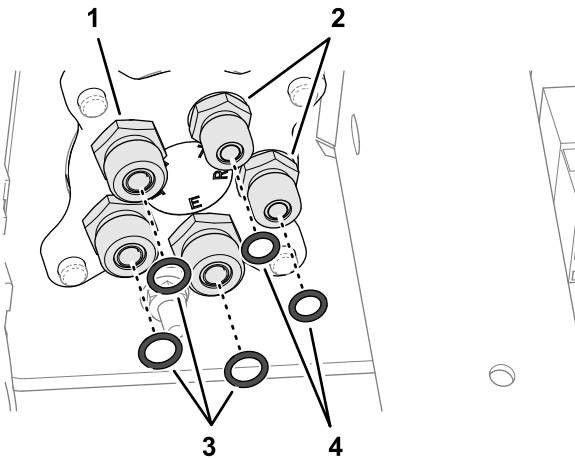

Figure 112
1. Remove the 3 O-rings from the face of the -6 fittings of the steering valve (Figure 112).
2. Install a 3 new O-ring 9.2/1.8 mm (0.364/0.070 inch) into the grooves of the -6 fittings (Figure 112).
3. Remove the 2 O-rings from the face of the -4 fittings (Figure 112).
4. Install a 2 new O-ring 7.6/1.8 mm (0.301/0.070 inch) into the grooves of the -4 fittings (Figure 112).